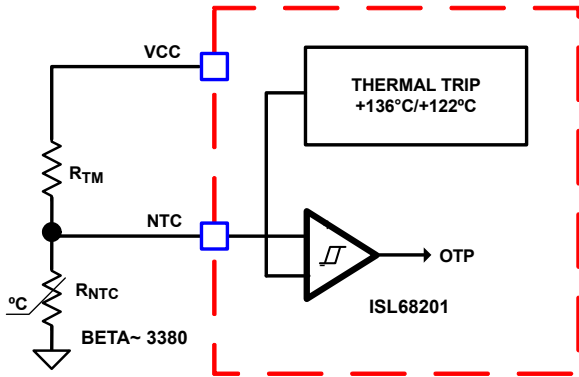
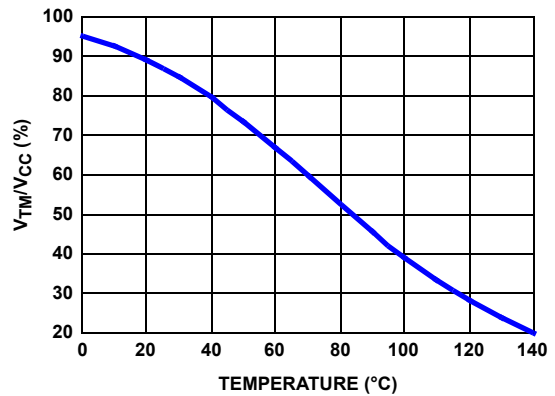

FIGURE 16. BLOCK DIAGRAM OF THERMAL MONITORING AND PROTECTION
FIGURE 18. THE RATIO OF TM VOLTAGE TO NTC TEMPERATURE WITH RECOMMENDED PART
The thermal monitoring function block diagram is shown in Figure 16 on page 18. One NTC resistor should be placed close to the respective power stage of the voltage regulator VR to sense the operational temperature, and pull-up resistors are needed to form the voltage dividers for the NTC pin. As the temperature of the power stage increases, the resistance of the NTC reduces, resulting in the reduced voltage at the NTC pin. Figure 18 on page 18 shows the TM voltage over the temperature for a typical design with a recommended 10kΩ NTC (P/N: NCP15XH103J03RC from Murata, β = 3380) and 1.54kΩ resistor RTM. It is recommended to use those resistors for accurate temperature compensation because the internal thermal digital code is developed based on these two components. If a different value is used, the temperature coefficient must be close to 3380 and RTM must be scaled accordingly. For instance, if NTC = 20kΩ (β = 3380), then RTM should be 20kΩ/10kΩ\*1.54kΩ = 3.08kΩ.
Based on the VCC voltage, the ISL68201 converts the NTC pin voltage to a digital signal for temperature compensation. With the nonlinear A/D converter of the ISL68201, the NTC digital signal is linearly proportional to the NTC temperature. For accurate temperature compensation, the ratio of the NTC voltage to the NTC temperature of the practical design should be similar to that in Figure 18.
1. Properly choose the voltage divider for the NTC pin to match the NTC voltage vs temperature curve with the recommended curve in Figure 18 on page 18.
As shown in Figure 16 on page 18, there is a comparator with hysteresis to compare the NTC pin voltage to the threshold set. When the NTC pin voltage is lower than 22.31% of the VCC voltage (typically +136 °C), it triggers Over-Temperature Protection (OTP) and shuts down the ISL68201. When the NTC pin voltage is above 27.79% of the VCC voltage (typically +122.4 °C), the ISL68201 resumes normal operation. When an OTP fault is declared, the controller forces the LGATE and UGATE gate-driver outputs low.